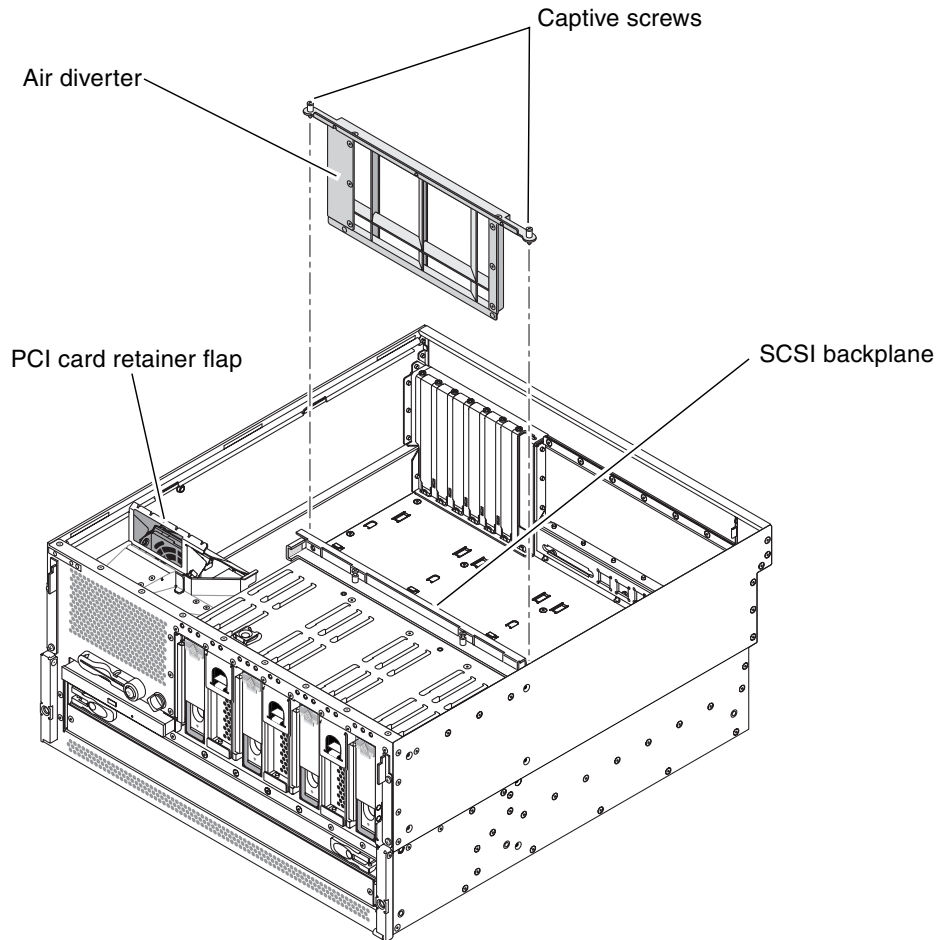

FIGURE 4-13 Removing the Air Diverter
6. Raise the slotted PCI card retainer flap on the fan tray 3 assembly (FIGURE 4-13).
7. Locate the air diverter and SCSI backplane (FIGURE 4-13).
8. Unscrew the two screws from the top of the air diverter and remove the air diverter from the system (FIGURE 4-13).
5. **Insert the air diverter back into the system and tighten the two captive screws to secure it to the top of the SCSI backplane (FIGURE 4-13).**